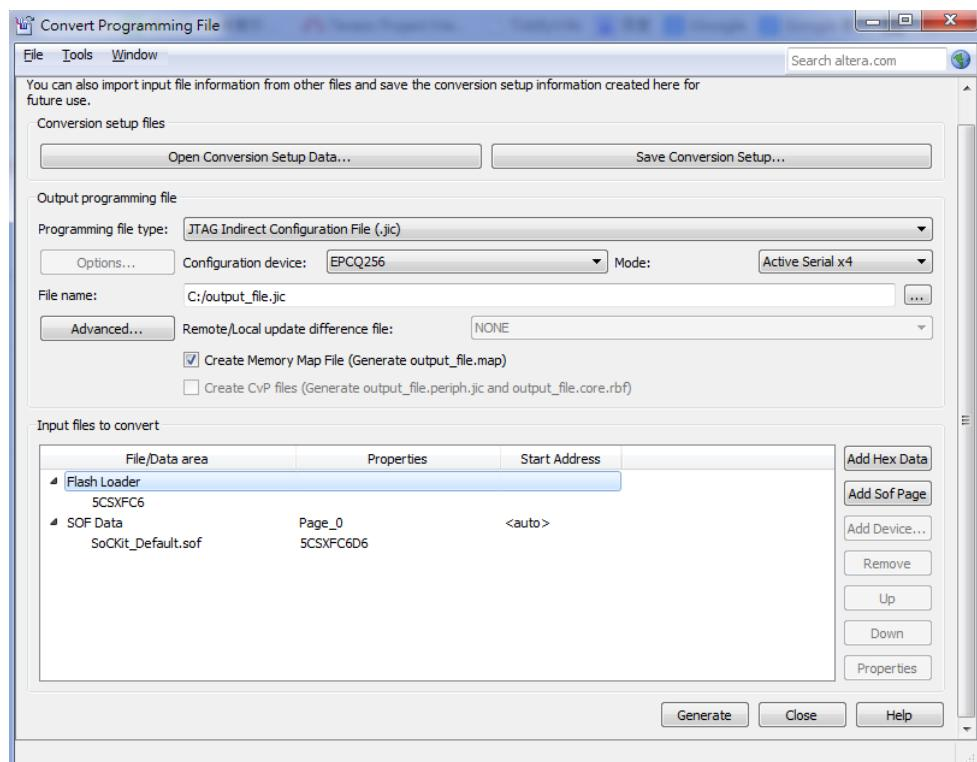

**Figure 7-3. Highlight Flash Loader**
10. Highlight the Flash Loader and click **Add Device**. See Figure 7-3.